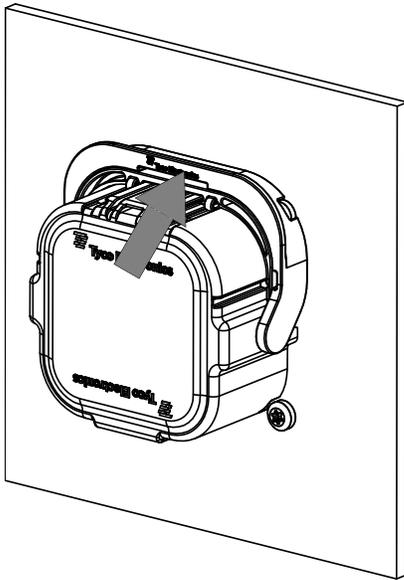

Figure 5
6. Once the lever is rotated to the end of the travel, an audible “click” will be heard as the lever latches into position as shown in Figure 5.